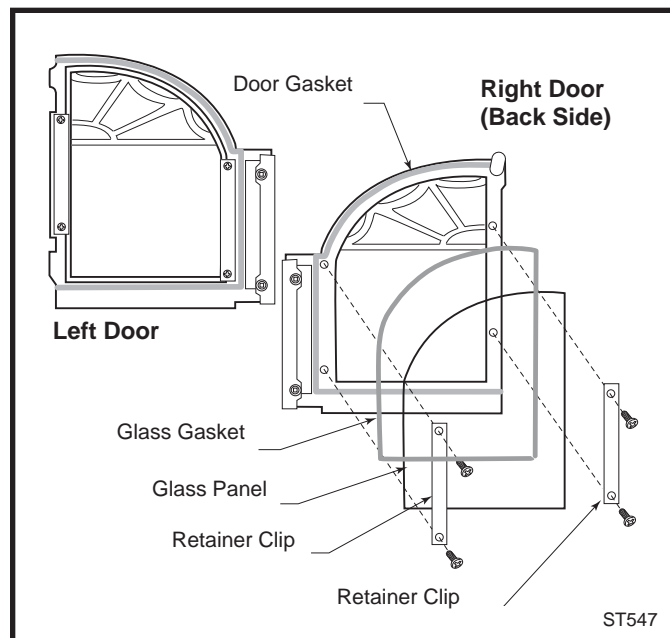

Fig. 31 An exploded view of the glass assembly.
2. Secure the glass on both doors with the retainer clips. Tighten all screws. (Fig. 31)